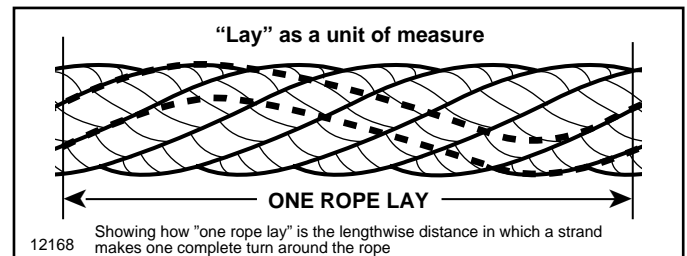

Figure 8-3. Description of One Rope Lay.
- (2) Broken outside wires exceeding twelve randomly distributed wires in one rope lay, or four broken wires in one strand in one rope lay. (See Figure 8-3.)